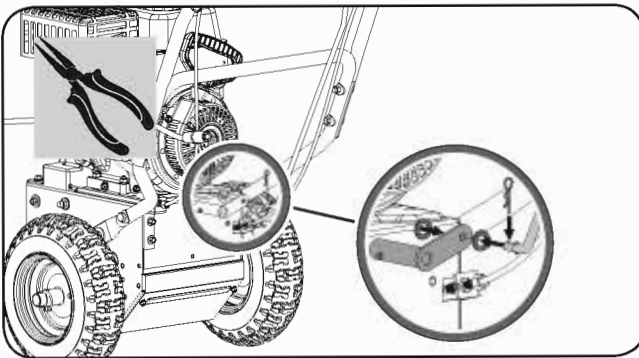

Figure 6b
2. Insert the shift rod with a flat washer into the shift arm. Secure with the other flat washer and clevis pin. (See **Figure 6b**)